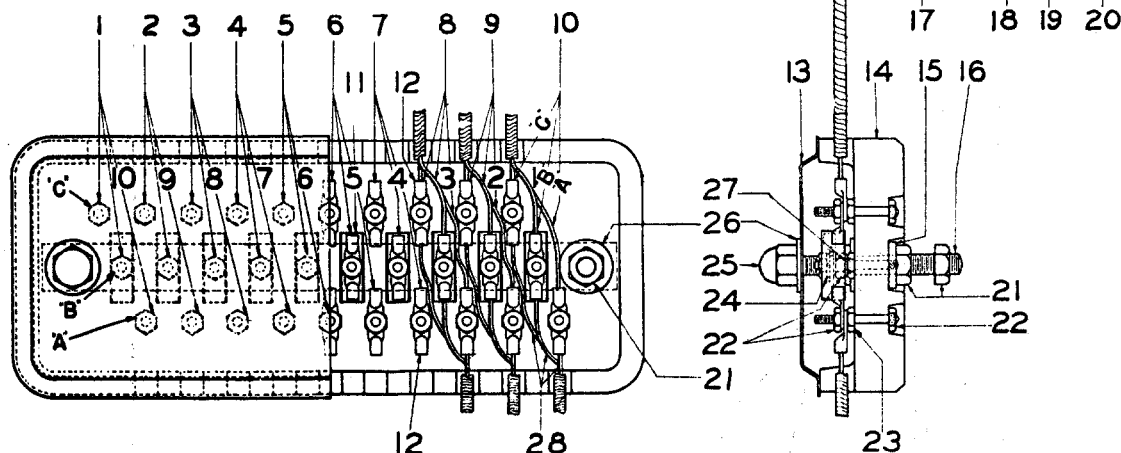

Fig. 7 Terminal Board For Resistance Temperature Detectors
The terminal board, Fig. 7, consists essentially of a moulded base (14) with cover (13), in which are arranged the connections (1-7) for joining together the leads from the temperature detectors and temperature meter. The center (b) row of connections is connected with the grounding strip (15). Part (16) serves as a ground connection and also as a stud for attaching the terminal board to its grounded support on the stator frame.